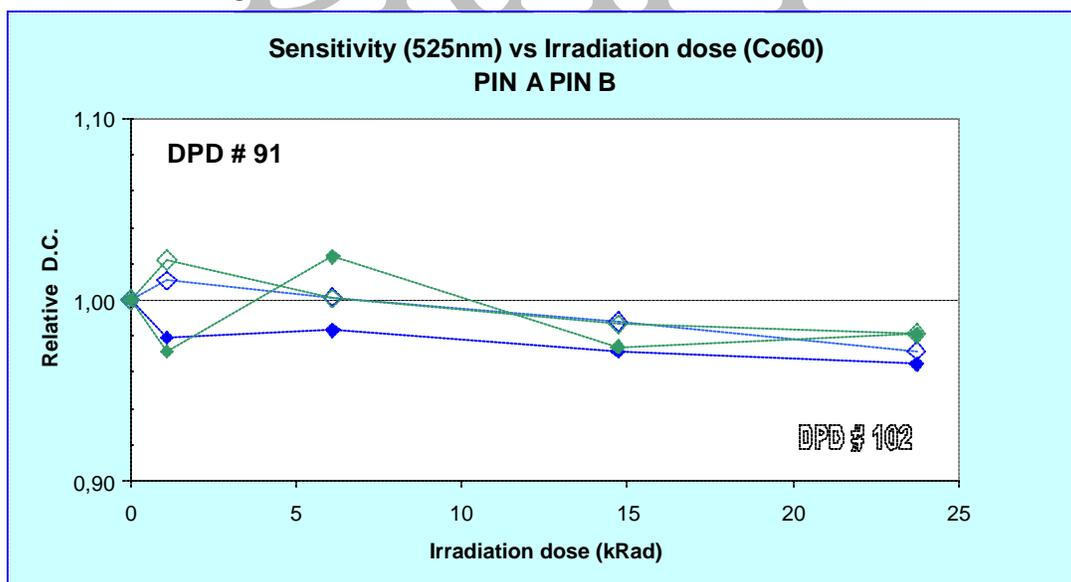

Figure 2: Effect of Radiation on Green Sensitivity (Relative value)
- A very small effect on the green sensitivity (see Fig. 2).